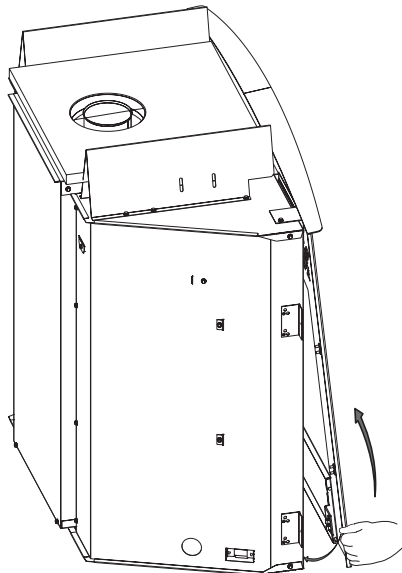

Figure 1
3. For models that include a decorative front face accessory, remove decorative front doors (where applicable) by opening and lifting straight up. Next, remove decorative front by tilting lower portion forward to release ball catch and lifting the front off the mounting bracket. **See Figure 1.**